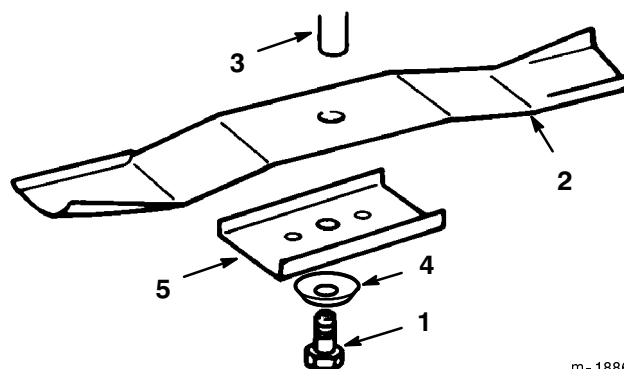

Figure 33
3. Remove the bolt (5/8" wrench), curved washer and blade (Fig. 33). A block of wood may be wedged between the blade and the mower to lock the blade when you are removing the bolt.
1. Install the blade, blade retainer, curved washer (cupped side toward blade), and the blade bolt (Fig. 33).